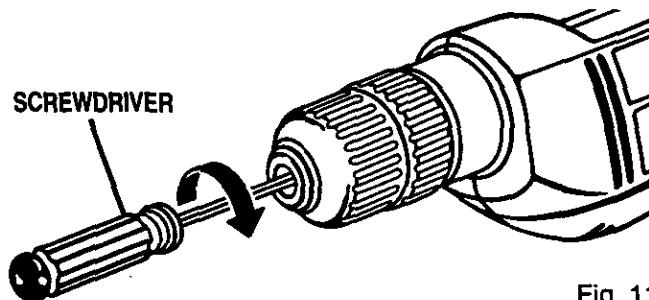

Fig. 11
- Open the chuck jaws and remove hex key wrench. Remove the chuck screw by turning it in a clockwise direction. See Figure 11.